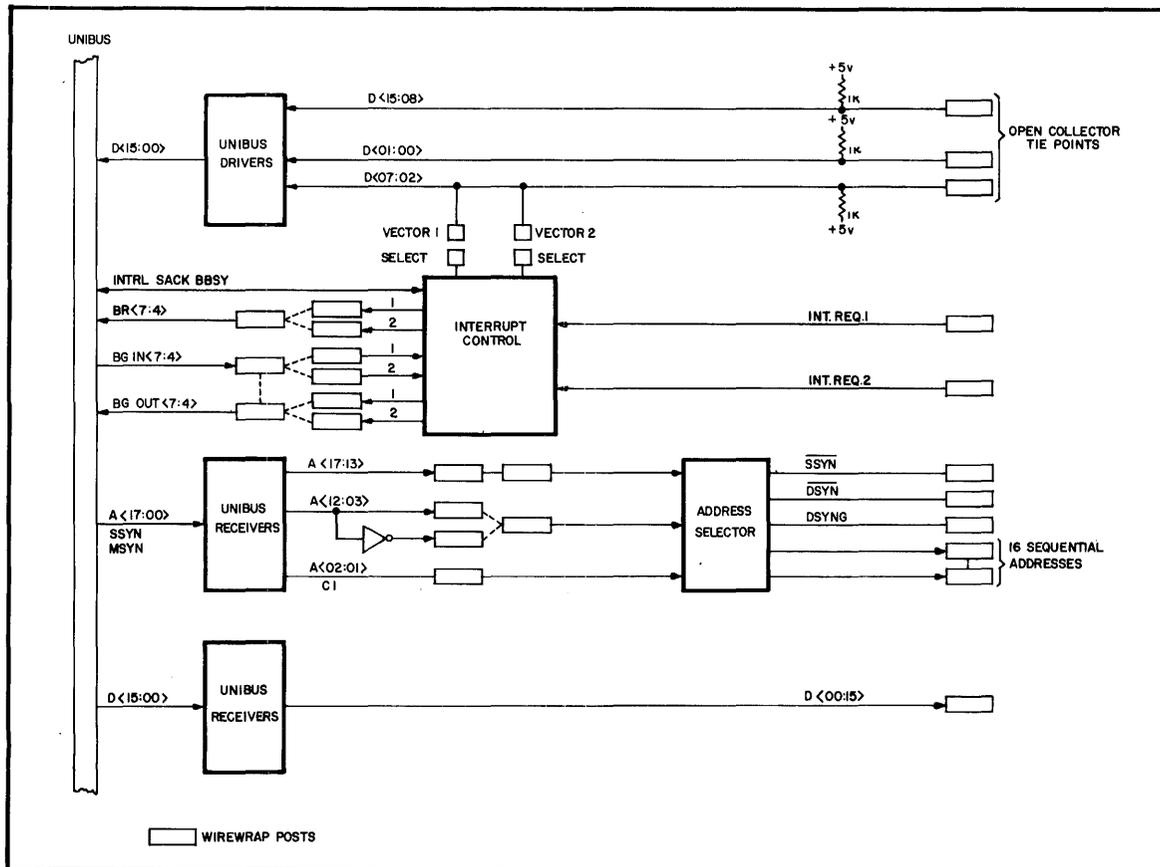

Figure 1 MDB-1710, Block Diagram
- fixed logic to interface with the PDP-11 and with user's interface logic built on the module. Fixed logic includes receivers and drivers, device address selection and decoder logic, and dual interrupt vector logic (see figure 1).